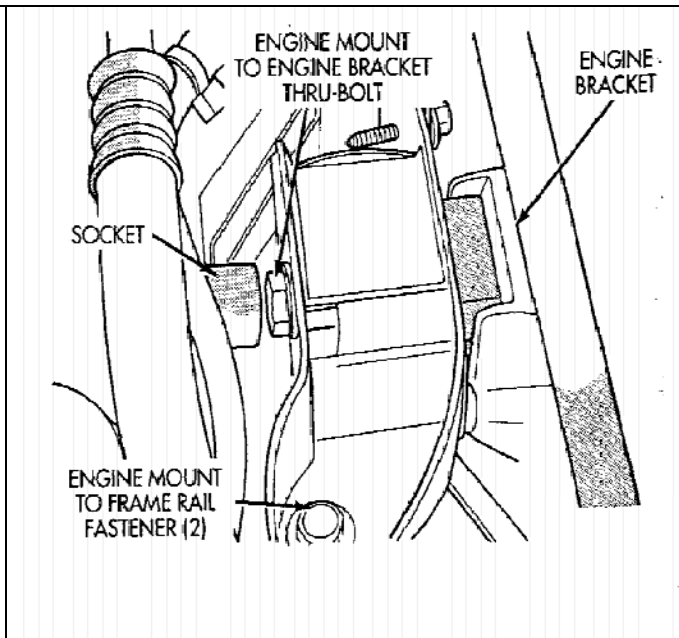

Fig 2 - Front engine mount
- b) Remove the two engine mount to frame rail bolts on either side of the engine mount. *See Figure 2*